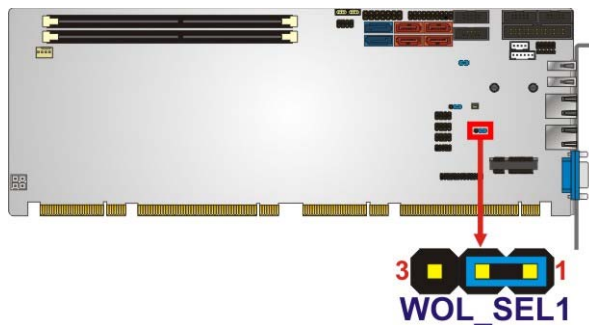

Figure 4-9: Wake-on LAN Connector Pinout Locations
- CN Location:** See Figure 4-9